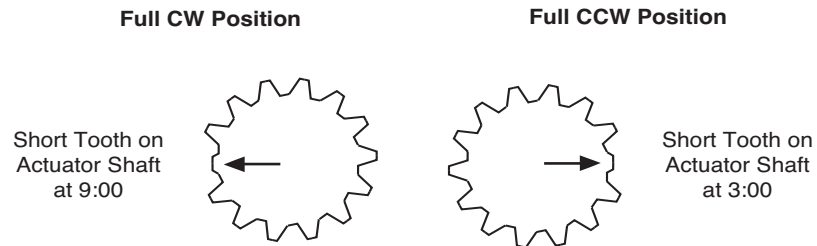

Figure-2 Actuator Shaft Position (Front View).
9. Install the main arm (E) onto the mounting base (D) at the pivot position determined in the previous step, using the main arm shaft (J) and two "E" rings (R). Make sure that the innermost hole of the mounting base is used for pivot position "1" and the outermost hole is used for pivot position "2".
10. Operate the actuator to the full clockwise position (the short tooth on the actuator shaft is at the 9:00 position). See Figure-2.
- a. Operate the actuator (A) to its full clockwise position (the short tooth on the actuator shaft is at the 9:00 position). See Figure-2. The valve stem should be fully down.
- c. If the plunger compression is less than required, increase it by turning the stem extension (K) counterclockwise.
- d. If the plunger compression is more than required, decrease it by turning the stem extension (K) clockwise.
- a. Operate the actuator (A) to its full counterclockwise position (the short tooth on the actuator shaft is at the 3:00 position). See Figure-2. The valve stem should be fully up.
18. When adjustment of the plunger compression is completed, tighten the stem locknut (L) against the stem extension (K) to secure the stem extension in position.